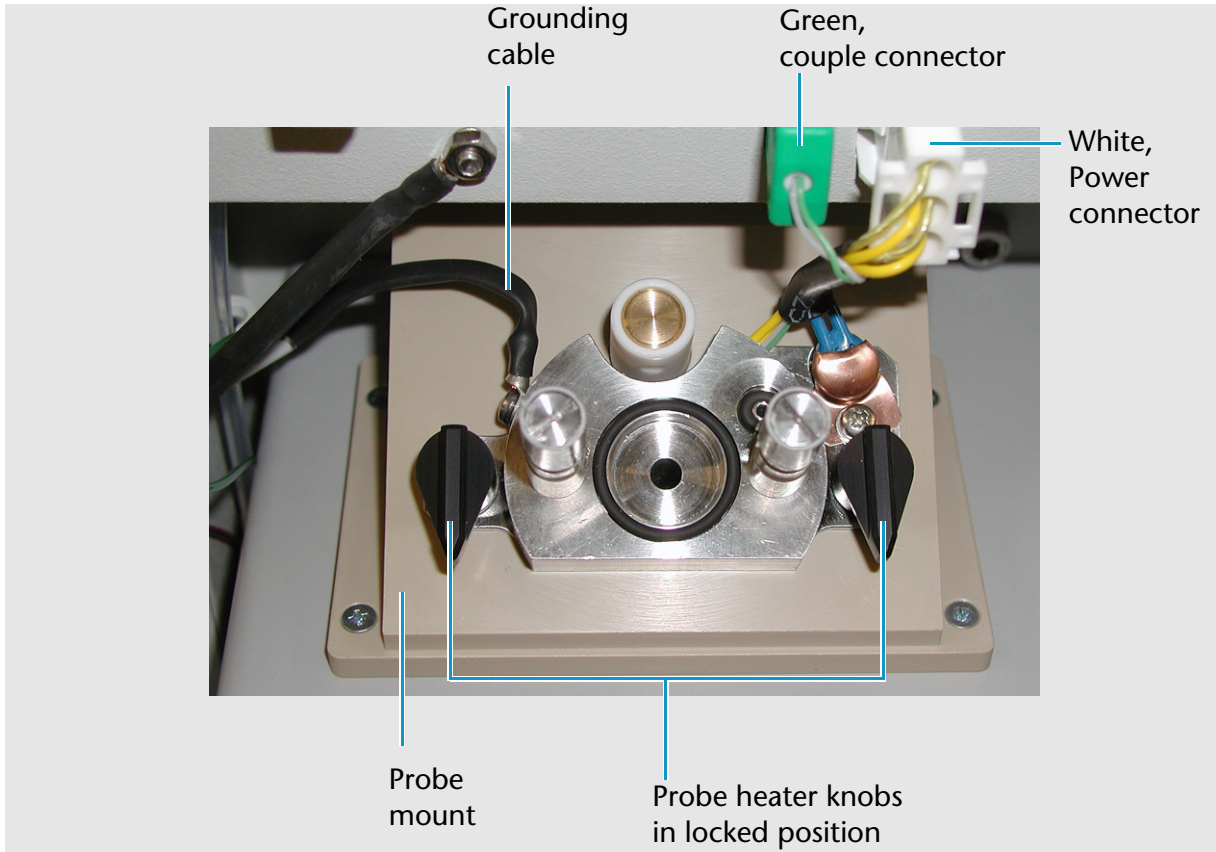
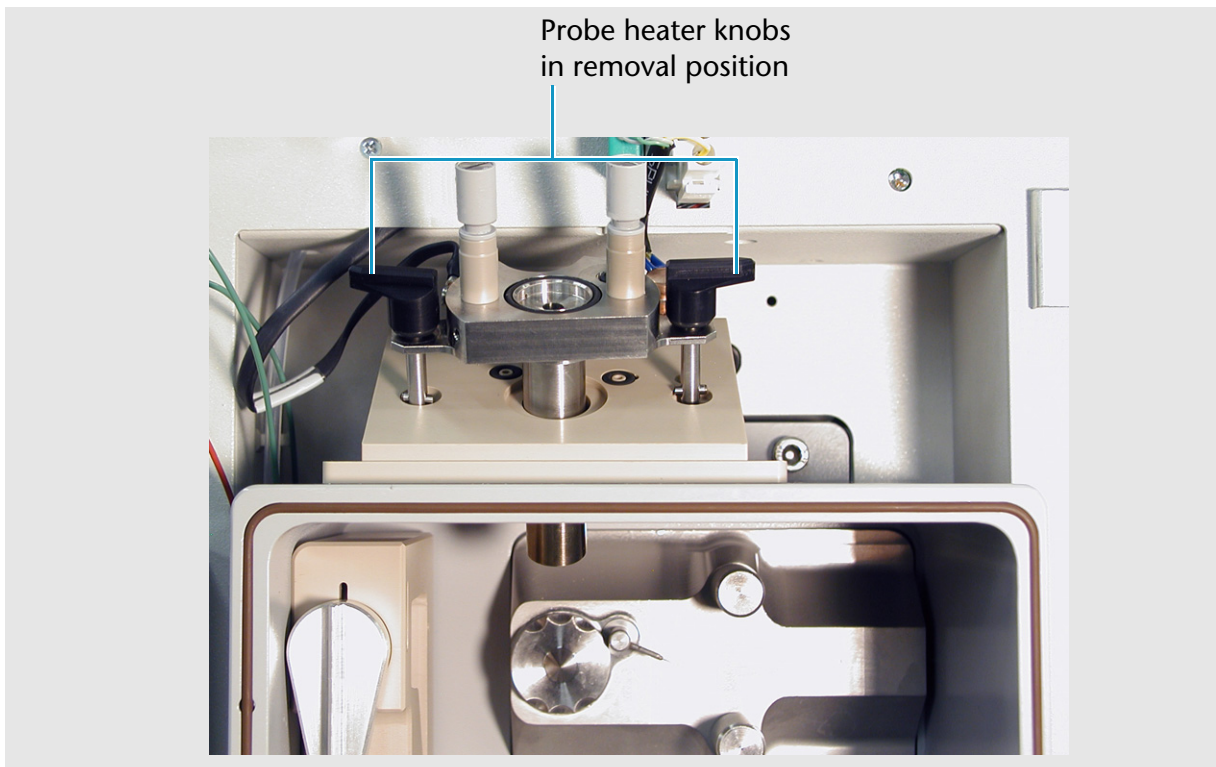

Fig. 53 Probe heater and its connections to the front panel of the mass detector
Fig. 54 Probe heater knobs in the removal position
2. Rotate the black knobs of the probe heater outwards 90 degrees, so that they face away from each other. See Figure 53 on page 82 and Figure 54 on page 82.
3. Rotate the black knobs of the probe heater, so that they face away from each other. See Figure 54 on page 82.
5. Rotate the black knobs of the probe heater forward to their locking position. See Figure 53 on page 82.
6. Plug the green connector and the white connector into their respective receptacles located above the probe mount. See Figure 53.